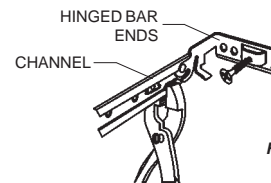

FIG.5
2. Crimp bottom of edge of channel to prevent rotation of hinged bar ends. (Fig.5)